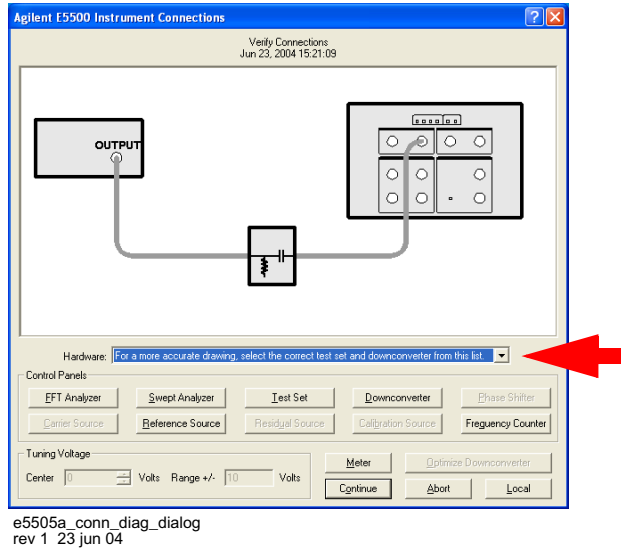

Figure 252 Connect diagram dialog box
- 3 When the **Connect Diagram** dialog box appears, click on the hardware drop-down arrow and select “N5500A option 001 test set only” configuration from the list. See Figure 252 on page 326.